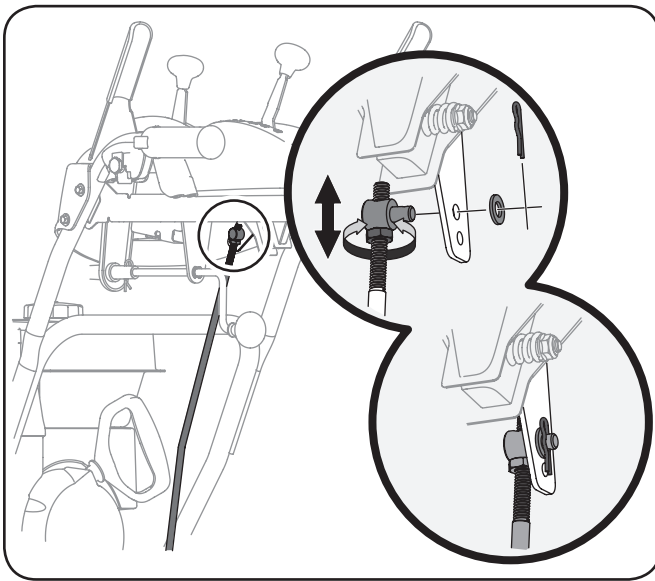

Figure 6-7
2. Remove the cotter pin and washer from the adjustment ferrule on the shift rod and pull it out from the shift lever. See Figure 6-7.
4. Rotate the ferrule up or down on the shift rod as necessary until the ferrule lines up with the upper hole in the shift lever. Refer to Figure 6-7 inset.